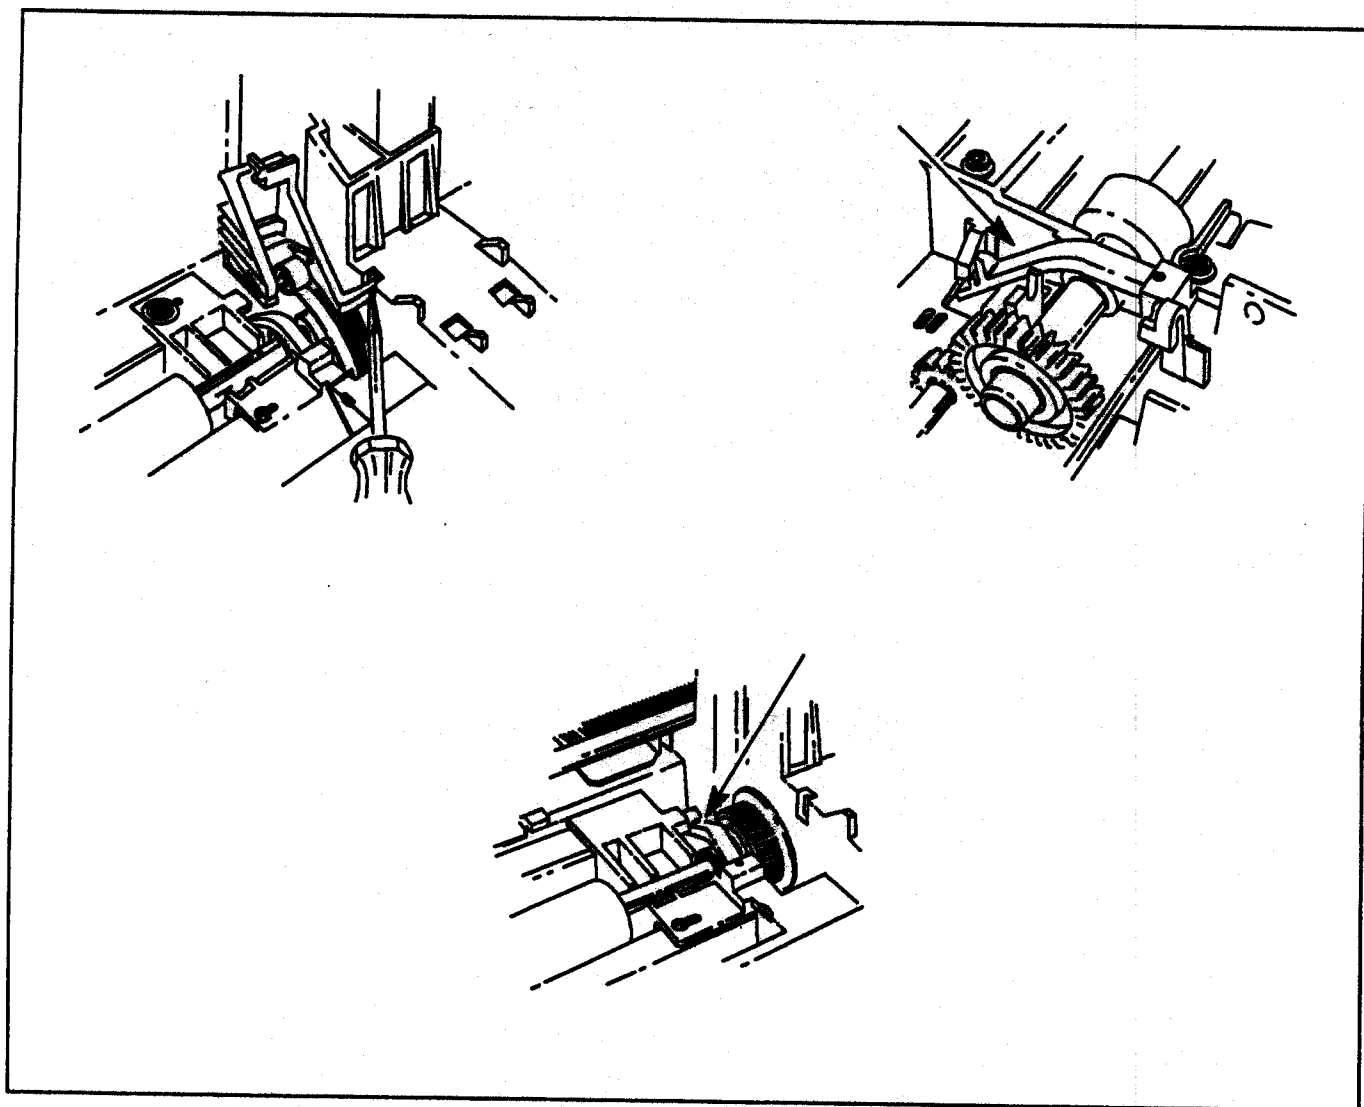

Figure 6-30. Grit Shaft Assembly Removal
- j. Remove the paper drive motor/encoder tensioner by inserting a flat-blade screwdriver in the chassis hole and gently prying up on the tab that holds the tensioner. See Figure 6-30.
- k. Unhook the grit shaft bearing clamps from the chassis at each end of the grit shaft and remove them. See Figure 6-30.